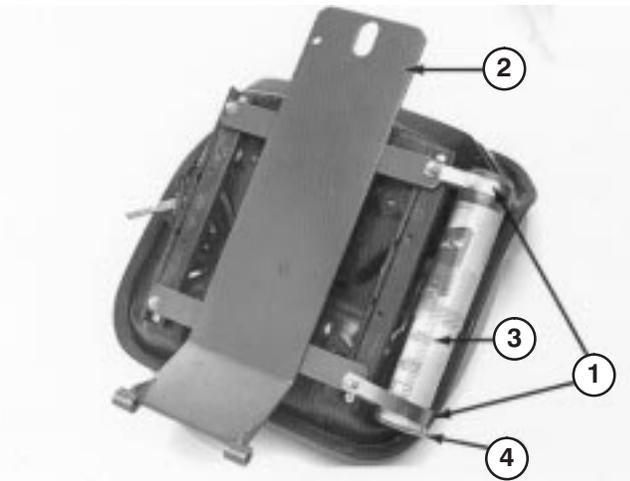

Figure 7
7. Loosely secure (2) R-clamps to right side of seat bottom with (2) capscrews and flatwashers supplied in kit (Fig. 7). Install manual tube into R-clamps and tighten capscrews (Fig. 7).
2. Insert pin part way into hole in top of seat support bracket on machine (Fig. 7).